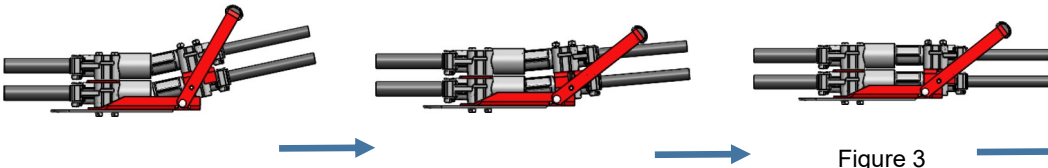

Figure 3
- Align the slots in the Battery Bracket to the pins in the Truck / Charger Assembly (see figure 3).